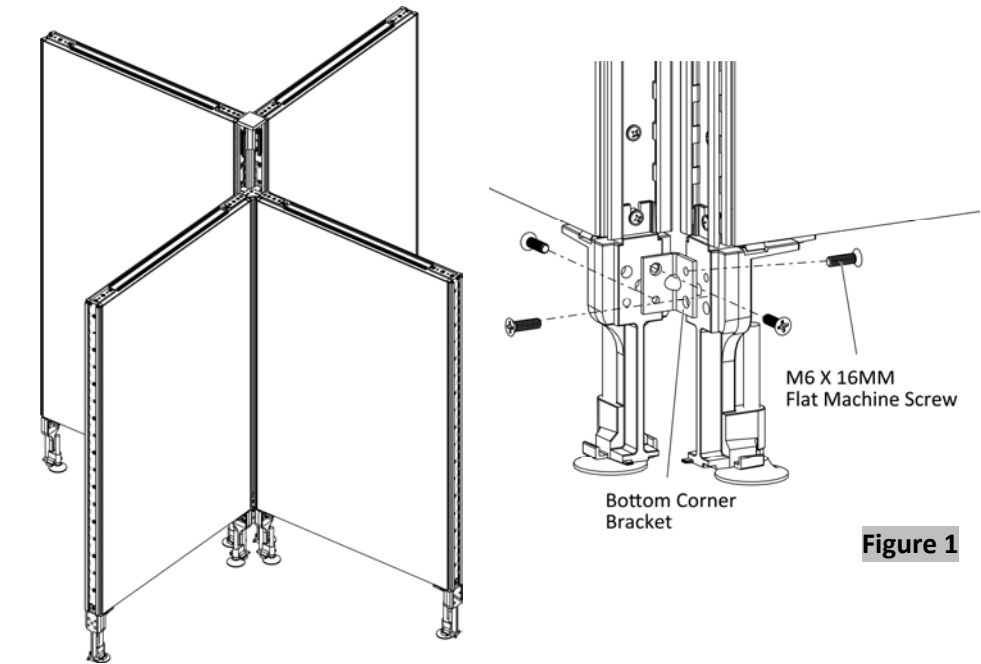

Figure 1
- 2. Securely fasten bottom corner bracket to panel legs with four M6 X 16MM Flat Machine Screws, (Figure 1).